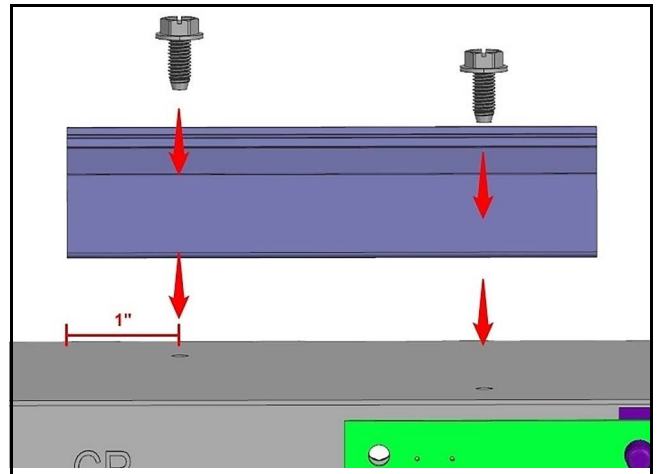

Fig. 8 Installing the Mounting Base to the Control Box (LM)
- e. Mount the base using the provided screws (two (2) #8 screws). Refer to Fig. 8.